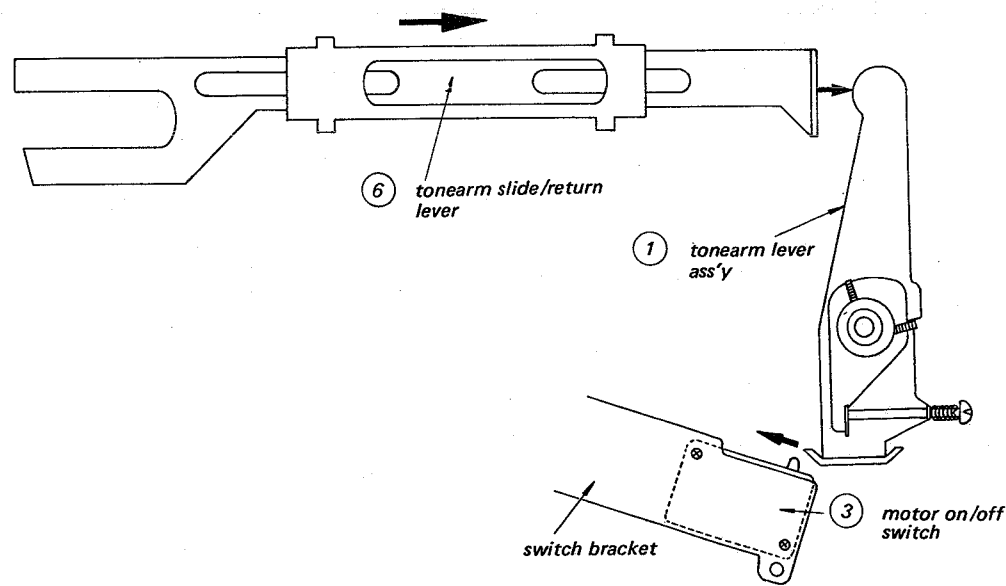

Fig. 1-6. Tonearm slide/return lever movement
The movement of tonearm lever ass'y retains the motor on/off switch ③ on position. This ensures power to the motor to complete last half cycle of rejecting operation after the tonearm has moved back to its rest. When the main cam ⑧ comes to its last movement, the tonearm slide/return lever ⑥ is moved back to its original position, cutting off power to the motor, because the motor on/off switch ③ is pressed by means of the tonearm lever ass'y ① as shown in Fig. 1-6. Now the tonearm returns to its rest.